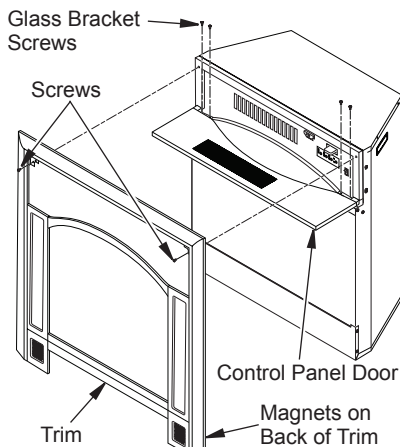

Figure 9 - Removing Trim
- Remove 2 screws holding front trim in place. Pull gently to remove trim (see Figure 9). There are magnets on the lower portion of trim (see Figure 9)
- With gloves and safety glasses in place, remove 4 screws from glass retainer brackets (see Figure 9).